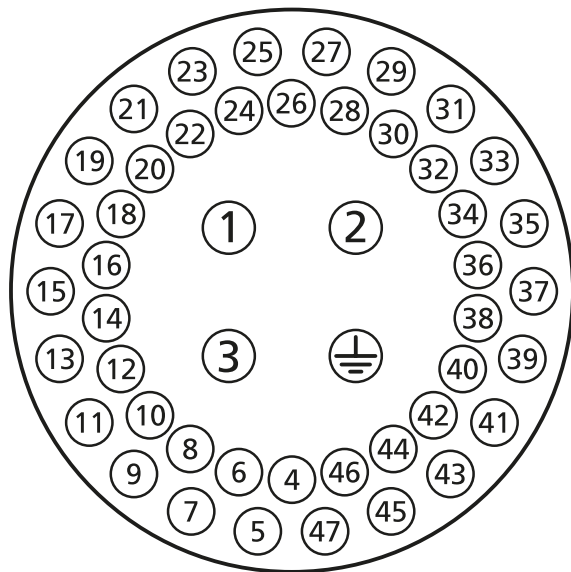

Fig. 5.1.1. Terminal numbers refer to connections as shown on the actuator circuit diagram
**⚠ WARNING:** Refer to figure 5.1.1 for terminal position numbers. On Ex "e" certified terminal enclosures, connections must be made with AMP ring crimp terminals.